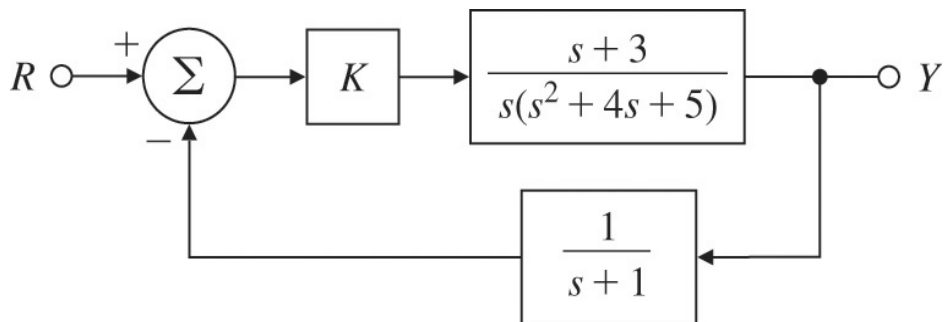

Fig. 5.58 Feedback system for Problem 5.20
20. Consider the system in Fig. 5.58.